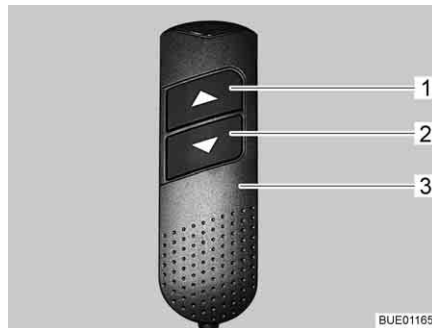

Fig. 115 Manual control unit
- On the manual control unit (Fig. 115,3) push the "▼" button (Fig. 115,2) and keep it pressed. The foot section is retracted. The head sections are raised.
- On the manual control unit (Fig. 115,3) push the "▲" button (Fig. 115,1) and keep it pressed. The foot section is extended. The head sections are lowered.
- On the manual control unit (Fig. 115,3), press the "▼" button (Fig. 115,2) or "▲" button (Fig. 115,1) until the desired position is reached.